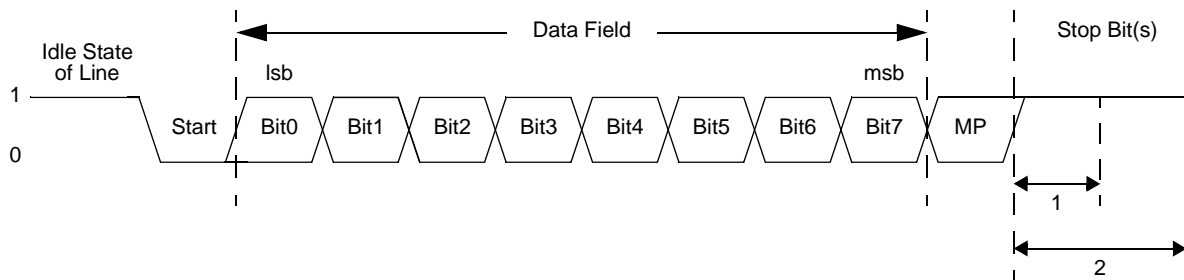

Figure 16. UART Asynchronous MULTIPROCESSOR Mode Data Format
The UART has a MULTIPROCESSOR (9-Bit) Mode that uses an extra (9th) bit for selective communication when a number of processors share a common UART bus. In MULTIPROCESSOR Mode (also referred to as 9-Bit mode), the multiprocessor bit (MP) is transmitted immediately following the 8 bits of data and immediately preceding the stop bit(s); the character format is displayed in Figure 16.